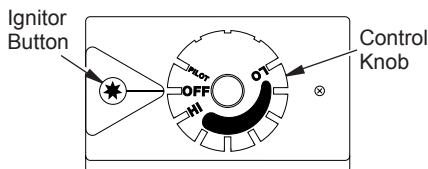

Figure 27 - Control Knob In the OFF Position
4. Wait five (5) minutes to clear out any gas. Then smell for gas, including near the floor. If you smell gas, STOP! Follow "B" in the safety information, column 1. If you don't smell gas, go to the next step.
5. Turn control knob counterclockwise ↺ to the PILOT position. Press in control knob for 5 seconds (see Figure 27).